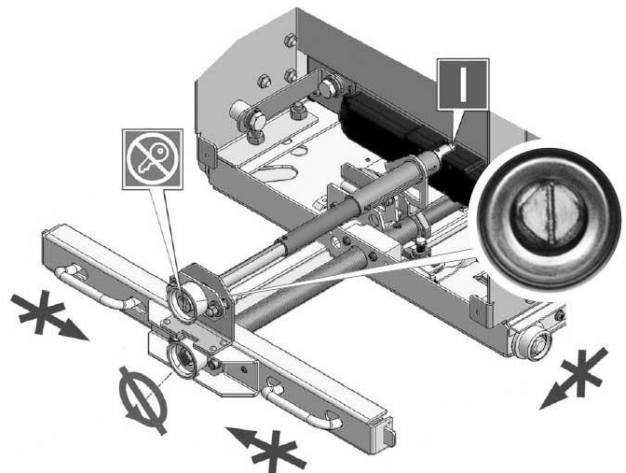

Figure 10
- When the interlocking square head is in unlocked position (Fig. 10) the interlocking system is in “Unlocked” position. In this position the ISM can be operated (opened and closed) and the draw-out unit can not be moved.
Position C (Fig. 10)